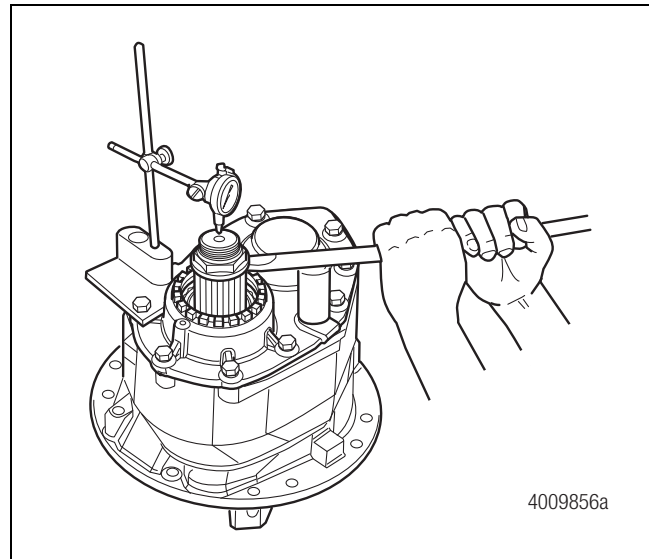

Figure 13
- To move the bearing cup outboard:** Place one end of a pry bar under the yoke nut and apply force by hand on the other end to pull the input shaft outward. Figure 13.